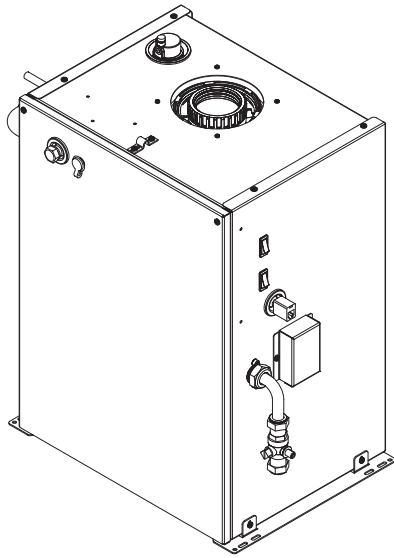

Fig. 1
5. These instructions relate to the central heating boiler section of the appliance (Fig. 1).